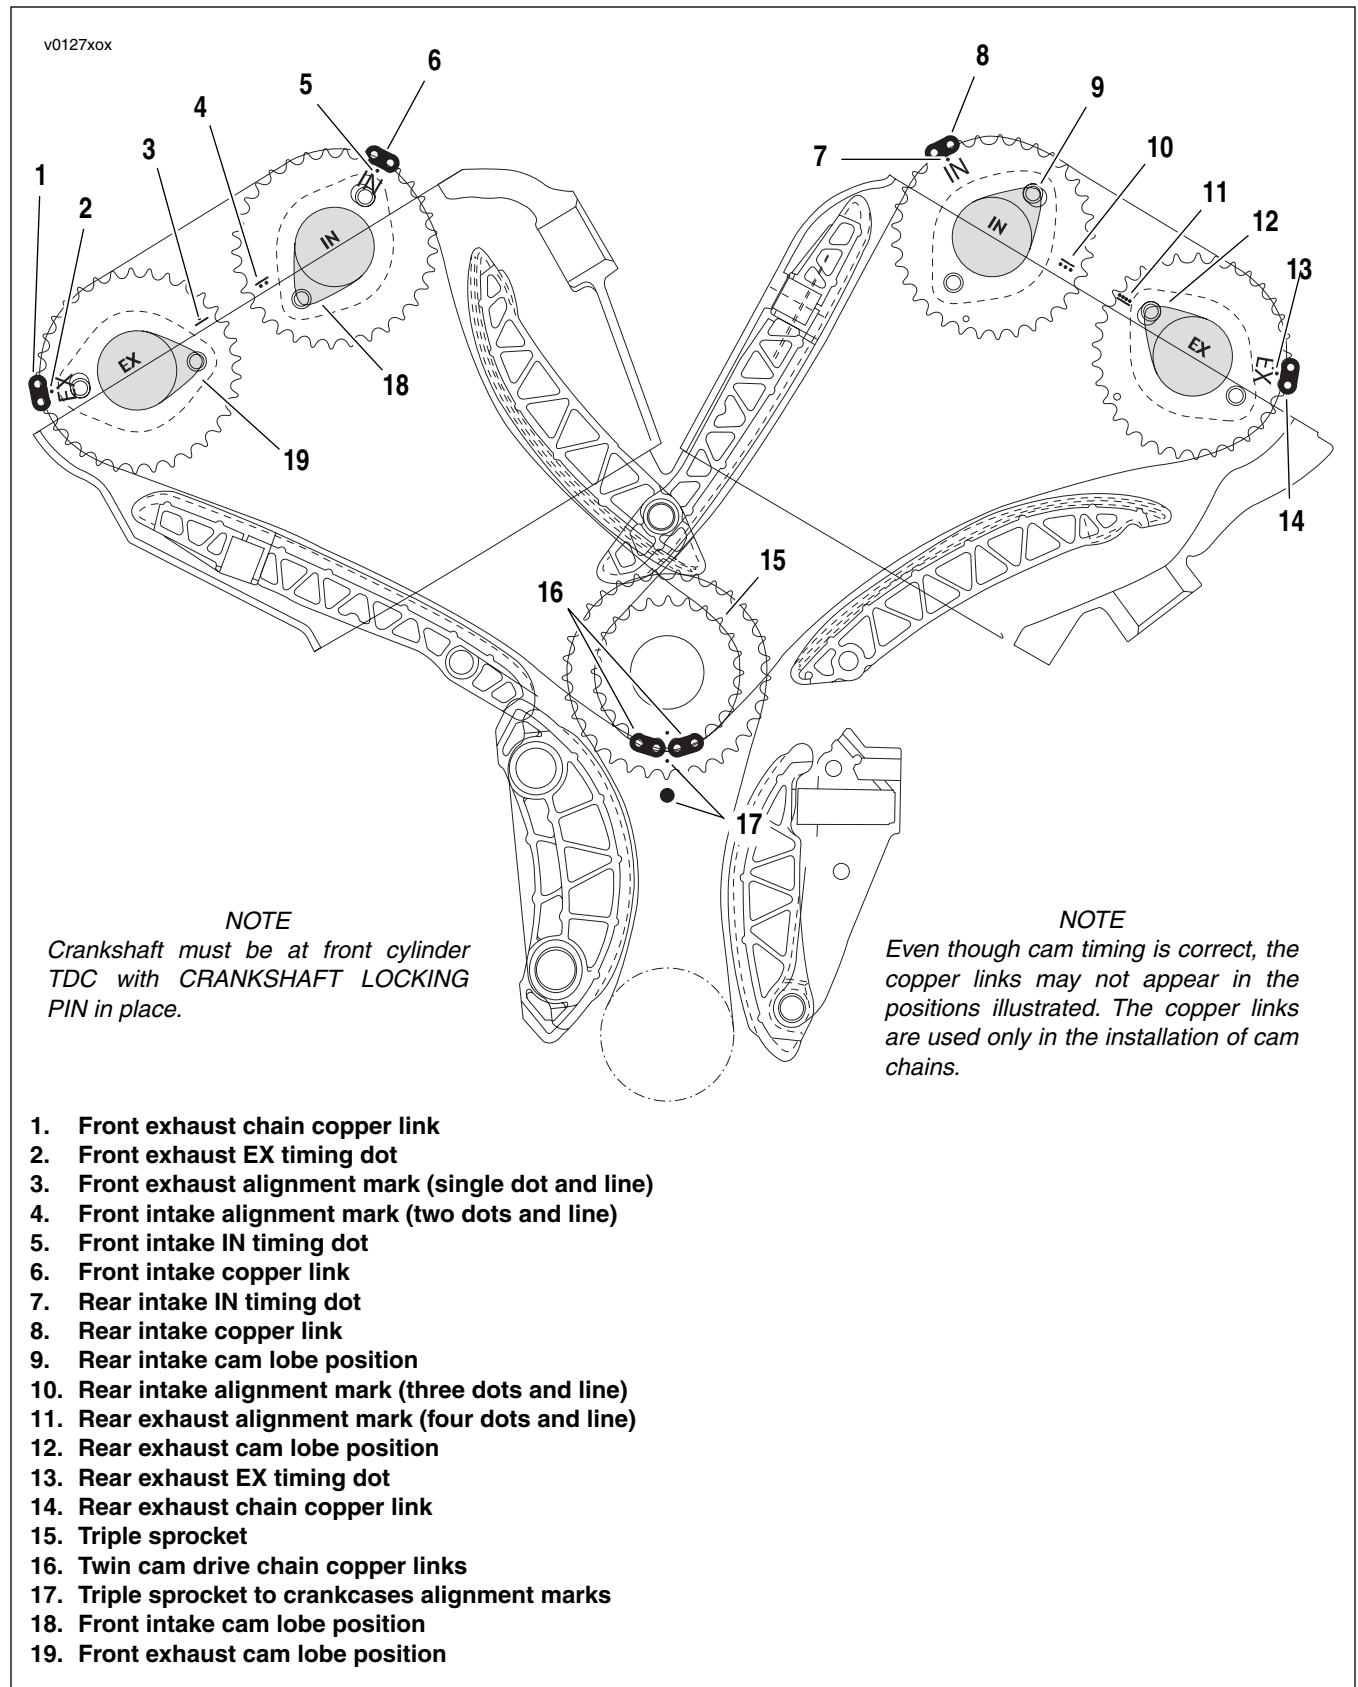

Figure 3-261. Cam Drive Timing Marks (secondary cam chain tensioners are not shown)
10. See Figure 3-261. Insert rear exhaust cam into cylinder head and rotate cam sprocket so single copper link (14) straddles the single dot timing mark labeled as EX (13).
11. Insert rear intake cam into cylinder head and rotate cam sprocket so single copper link (8) straddles the single dot timing mark labeled IN (7).
12. See Figure 3-261. For the rear cylinder, verify that:
- a. The single copper link (8) on the cam drive chain straddle the IN single dot (7) on the intake cam sprocket.
- b. The single copper link (14) on the cam drive chain straddles the EX single dot (13) on the exhaust cam sprocket.
- c. The three dot timing line (10) on the intake cam sprocket is aligned with the four dot timing line (11) on the exhaust cam sprocket.
21. See Figure 3-261. Insert front exhaust cam into cylinder head and rotate cam sprocket so single copper link (1) straddles the single dot timing mark labeled EX (2).
22. Insert front intake cam into cylinder head and rotate cam sprocket so single copper link (6) straddles the single dot timing mark labeled IN (5).
24. See Figure 3-261. For the rear cylinder, verify that:
- a. The single copper link (6) on the cam drive chain straddles the IN single dot (5) on the intake cam sprocket.
- c. The two dot timing line (4) on the intake cam sprocket is aligned with the one dot timing line (3) on the exhaust cam sprocket.
*Compare lobe positions of each cam shaft to Figure 3-261. If timing marks are correct but camshaft lobes are incorrect, the drive sprocket could be installed incorrectly on the camshaft.*